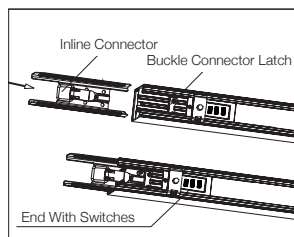

Fig. 2
2. Insert the inline connector into the end of the fixture. Connect the buckle to the buckle connector latch and secure with inline connector screws. Refer to Fig. 2 and Fig. 6.